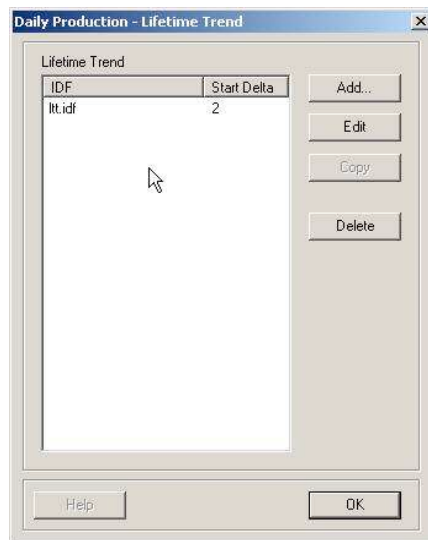

Figure 86: Daily Production – Lifetime Trend List Screen
- Click “Add” from the “Daily Production – Lifetime Trend” list screen (see *Figure 86*) to add LTT Data Extraction requests to the list of pending LTT data extraction daily production jobs. Highlight an existing request and click “Edit” to modify an existing LTT data extraction request.
- Add or edit another request on the “Daily Production – Lifetime Trend” list page (see Figure 86) or click “OK” when finished adding daily production Lifetime Trend data extraction requests.